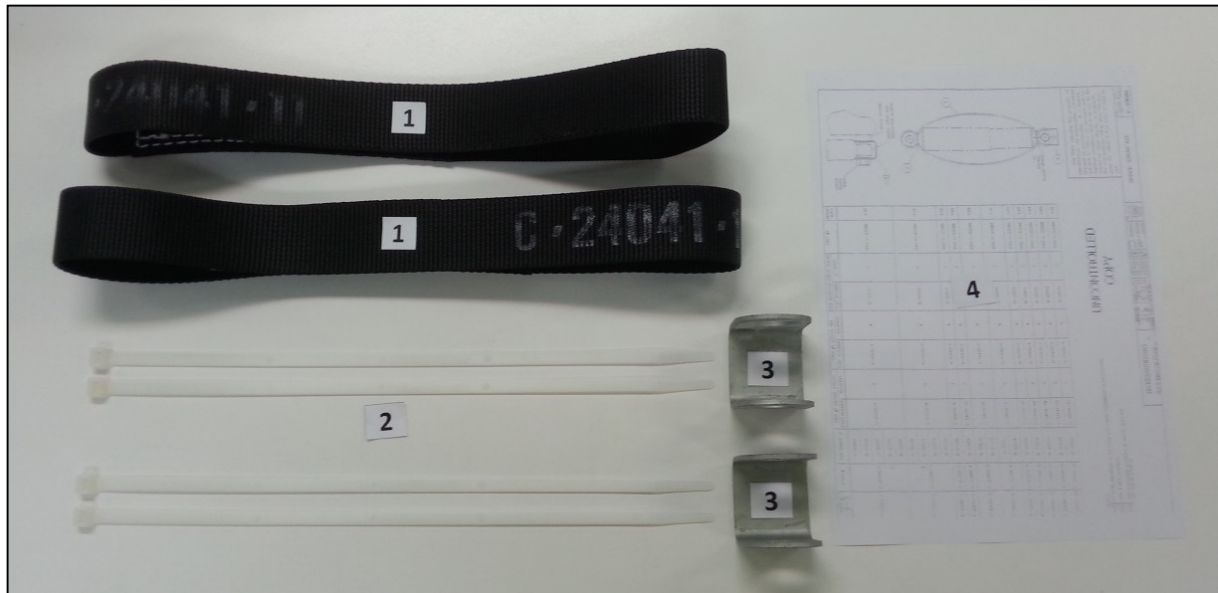

Figure 1
4. The Hendrickson shock absorber strap kits (shown at Figure 1) contain the following items:
- a. Shock Straps (refer to item 1);
- b. Nylon Cable Ties (refer to item 2);
- c. Clevis Brackets (refer to item 3); and
- d. Technical Drawing (refer to item 4).